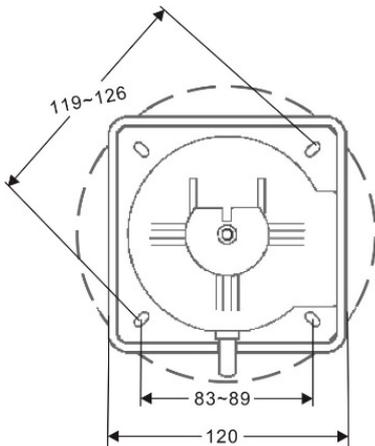

Fig. 2: Base mounting dimensions (indoor type shown)
3. Orient the base so when the body of the bell is re-fitted, the alarm hammer points downwards (see Fig. 2).